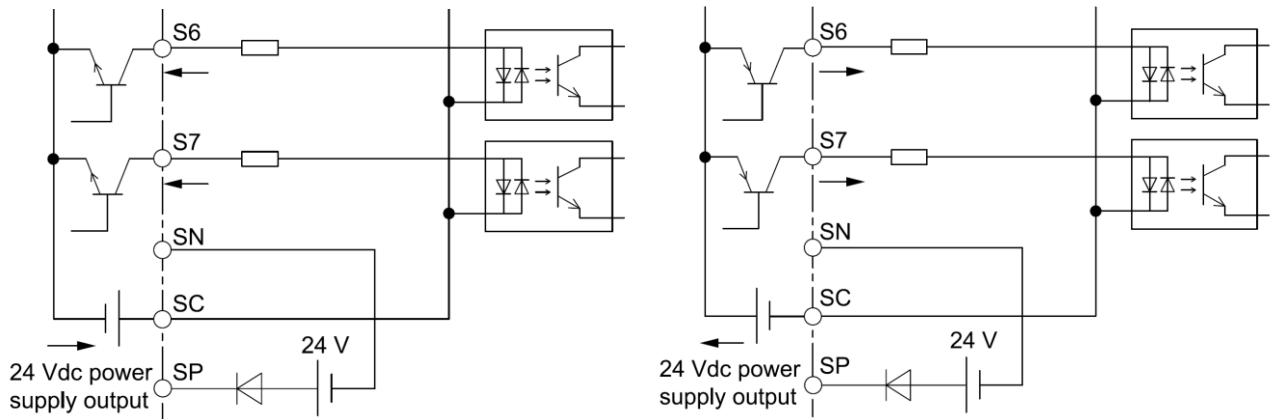

Figure 1. Wiring of Multi-function Digital Input Terminal
Provide the external 24 V power supply to the multi-function input selection common terminal (SC). For details on wiring, refer to Figure 1.